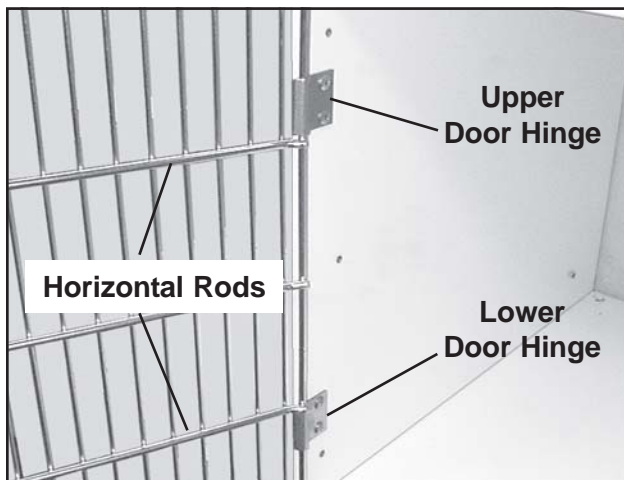

Figure 27. Door Hinges & Mounting Screws
4. With a Phillips screwdriver, unscrew the two screws on the lower door hinge, and remove both hinge plates (Figure 27).
Note: When the door is mounted, the upper hinge should be just above the top horizontal door rod, and the lower hinge should be just below the bottom horizontal door rod (Figure 27).